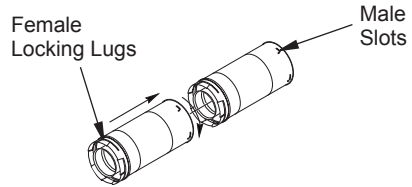

Figure 10 - Vent Pipe Connections
Twist-Lock Procedure: The female ends of the pipes have locking lugs (indentations). These lugs will slide straight into matching slots on the male ends of adjacent pipes. Push pipe sections together and twist one section clockwise approximately one-quarter turn until the sections are fully locked (see Figure 10). **Note:** Horizontal runs of vent must be supported every three feet. Use wall straps for this purpose.
2. Assemble the desired lengths of pipe and elbows necessary to reach from the fireplace flue up through the firestop. Be sure all pipe and elbow connections are fully twist-locked (see Figure 10, page 11).